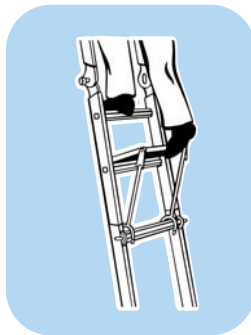

Figure G-7
7. When through, step to rung above work platform and push work platform forward with toe. Step down through work platform (see figure G-7).